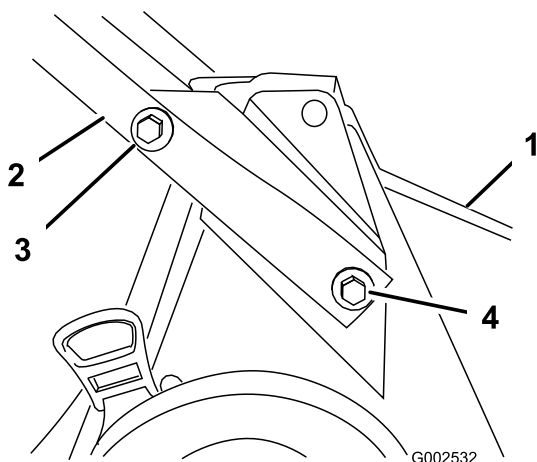

Figure 3
1. Mount the lower handle to the mower housing with 2 bolts (5/16 x 7/8 inch), 2 bolts (5/16 x 1-1/2 inches), 4 washers, and 4 locknuts (Figure 3).